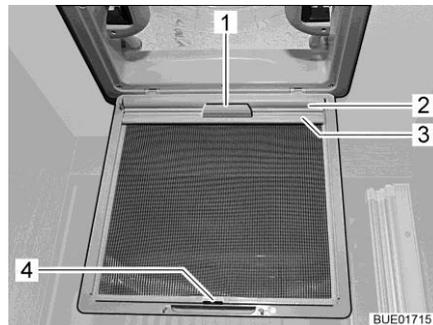

Fig. 63 Blind (skylight)
- Using the handle (Fig. 63,1), pull out the blind (Fig. 63,2) and hook the retainer (Fig. 63,3) into the hook (Fig. 63,4) on the insect screen.
- Release the retainer (Fig. 63,3) from the hook (Fig. 63,4) and, using the handle (Fig. 63,1), slowly return the blind (Fig. 63,2).